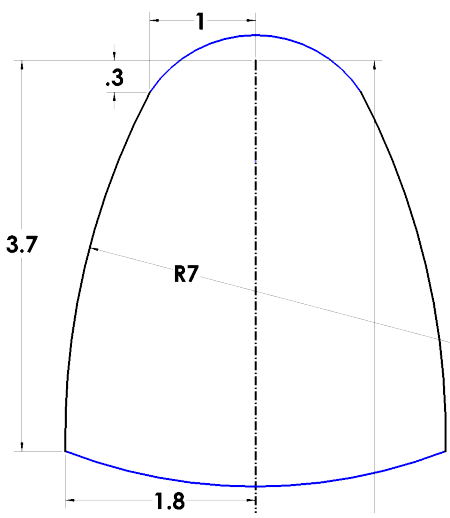

Fig. 8
Step 1. Click **3 Point Arc**  (S) in the Arc flyout  on the Sketch toolbar.
Step 2. Sketch an arc between the top endpoints of arc and a second arc across bottom endpoints of arc, **Fig. 8**.